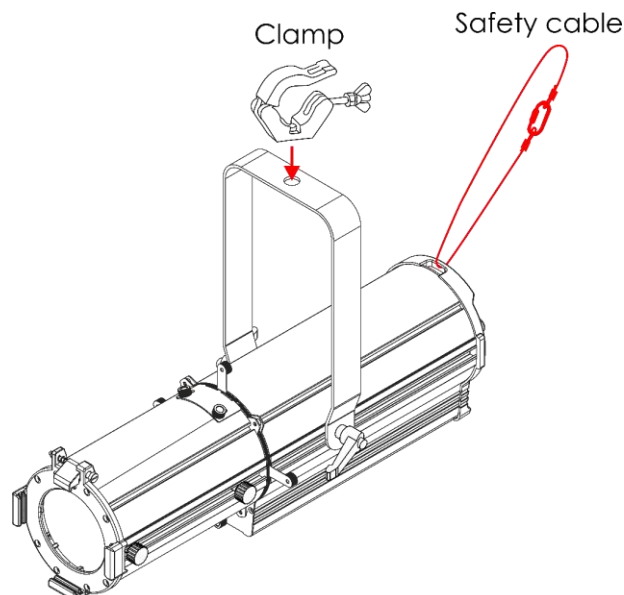

Fig. 09
- 01) Use a clamp to attach the device to the supporting structure, as shown in Fig. 09. Make sure that the device cannot move freely.
- 02) Secure the device with a secondary suspension, for example a safety cable. Make sure that the secondary suspension can hold 10 times the weight of the device. If possible, the secondary suspension should be attached to a supporting structure independent of the primary suspension. Put the safety cable through the **safety eye (02)**, as shown in Fig. 09.